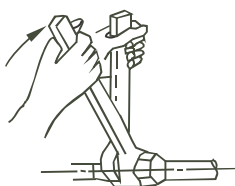

Fig.8-2
- Put the connecting tubing at the proper position, wrench the nuts with hands then fasten it with a wrench. (Refer to Fig.8-2)